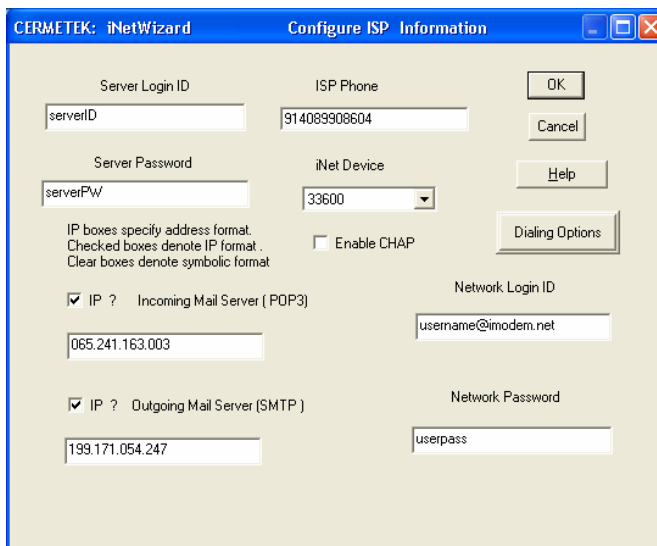

Figure 29. Configure ISP Information Data window per Example 5.
Step 2. Display ISP parameters. Click on the CONFIGURE ISP button. This will display the CONFIGURE ISP INFORMATION window. See Figure 29.